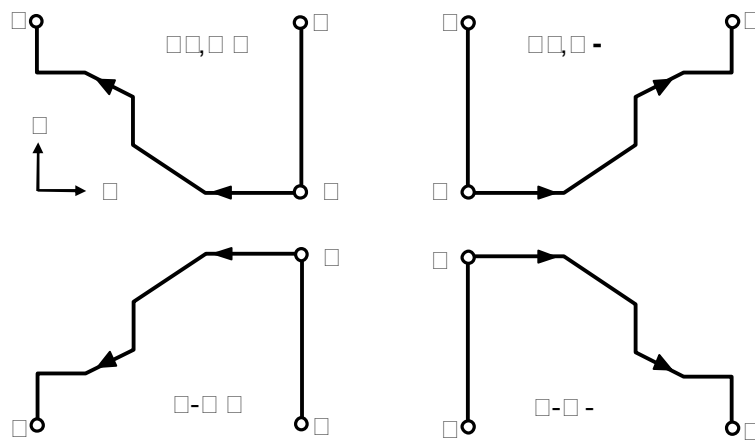

Fig. 3-34 G71 Rough Cut Canned Cycle
- (1) N(ns)~N(nf) specify the machining path of A1~B.
- (2) A maximum of 50 blocks can be inserted from N(ns) to N(nf).
- (3) No subprogram is available from N(ns) to N(nf).
- (4) No assignment of positioning commands on Z-axis is allowed from A to A1.
- (5) The feed-rate from A to A1 is either G00 or G01.
- (6) The X and Z tool path from A1 to B must be incremental or decremental.
- (7) The cutting depth U( $\Delta$ d) and retraction amount of rough cut R(e) are modal codes. They remain valid until another value is specified.
- (8) G71 is applicable to the following four cutting types. They are all parallel to the Z-axis. Whether U and W are positive or negative (Fig. 3-34) is determined by the direction of tool path.